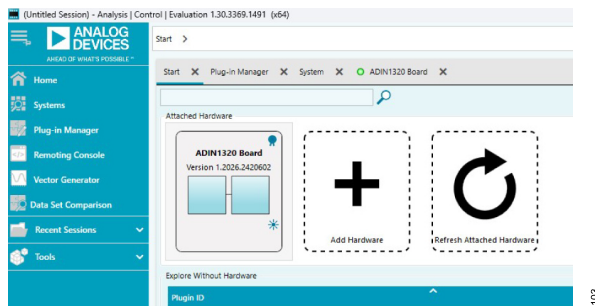

Figure 4. ACE Evaluation Software—Attached Hardware
5. The board appears as **Attached Hardware** (see Figure 4). To continue, double click the **ADIN1320 Board** window.